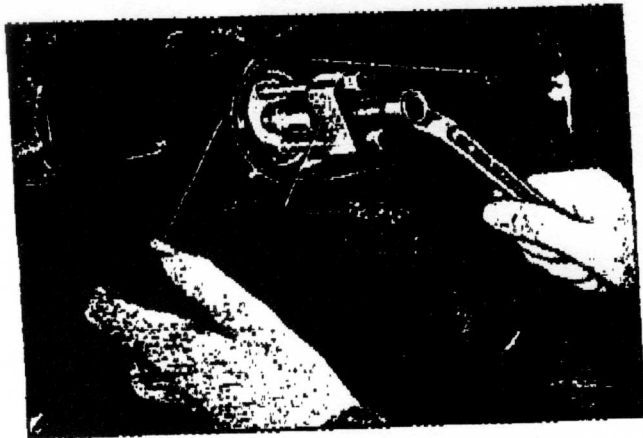

Fig. 27. Removing the steering wheel (PV 544 and P 210).
3. Check that the direction indicator switch is in the neutral position. Pull off the steering wheel with puller SVO 2325, see Fig. 27.